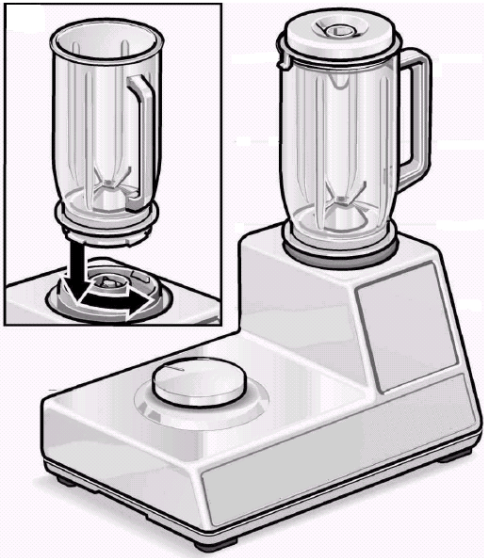

Figure 11.
2. To assemble or reassemble blade/base assembly into the blender, insert the blade/base assembly into the blender jar and press down on the blade/base assembly. Turn clockwise to the stop, see figure 11. The blade/base assembly is then back in place.
3. If you have not already done so, move the motor drive cover to the high-speed drive. Place the blender on the high-torque drive of the power unit and turn the blender counterclockwise with a slight downward pressure until the jar is firmly seated, see figure 11.